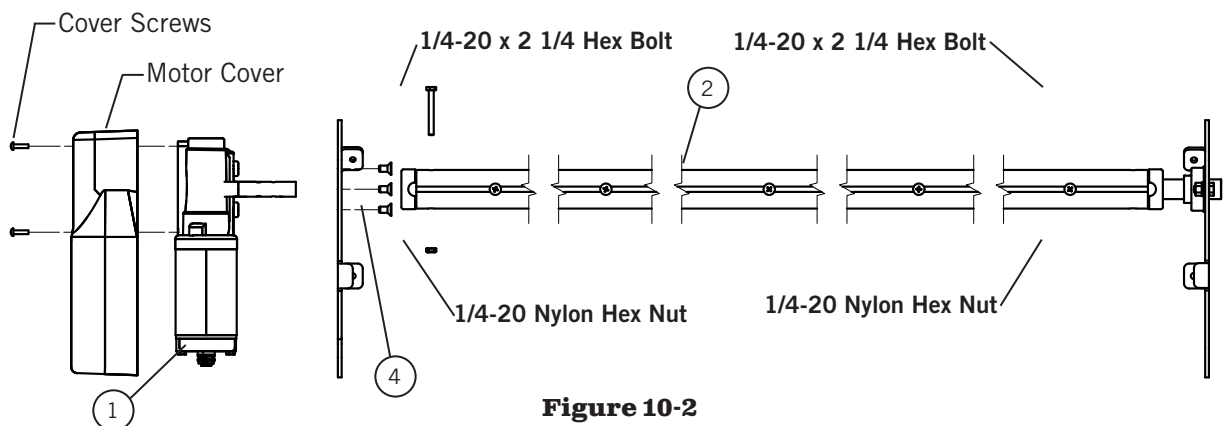

Figure 10-2
- Figure 10-2.** Fasten motor RA/SWB (1) to the end plate or tarp housing with three 5/16-18 x 7/8 FHCS (4).
- Figure 10-2.** Unbolt and remove the shaft from end of fixed electric roll up bar (2).
- One end does not have a shaft. Remove the nut and bolt from that end. Insert end onto shaft of motor RA/SWB (1), line up hole in roll up tube with hole in motor shaft, and with previously removed nut and bolt secure roll up bar to shaft.
- On the opposite end line up the fixed electric roll up bar (2) with the bearing and insert shaft through the bearing.